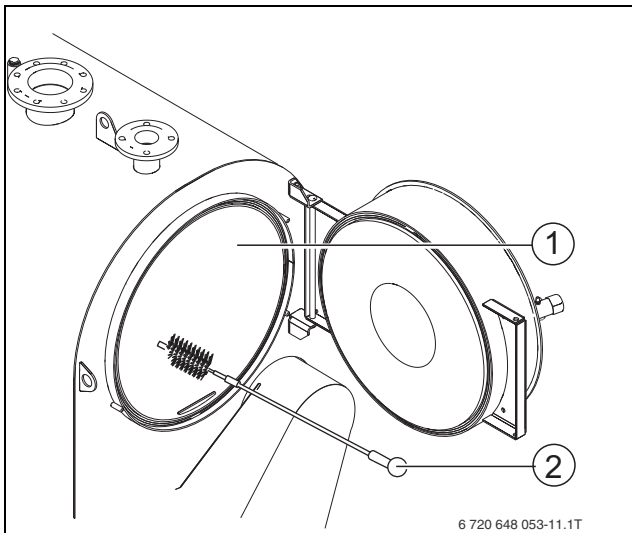
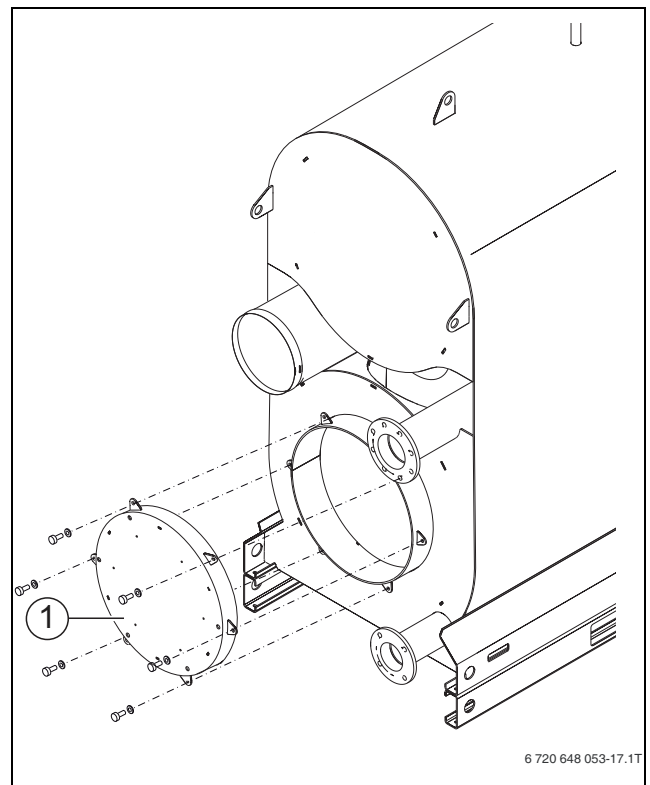

Fig. 31 Cleaning the heating surfaces
Fig. 32 Removing the reversing chamber cover
- ▶ Clean the heating surfaces of the combustion chamber (→ fig. 31, [1]) with the cleaning brush [2].
- ▶ Remove all loose combustion residues from the combustion chamber (→ fig. 31, [1], page 31), the hot gas flues and the reversing chamber (→ fig. 32, [1]).